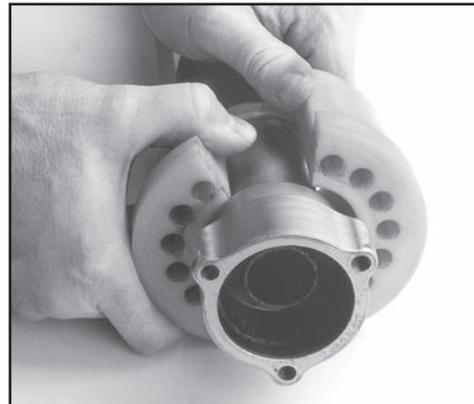

**FIG. 67: INSTALLING SEGMENTED RINGS**
19. Tighten the screw of the control tube end so that the elastic block is compressed and both halves of the segmented rings can be installed (see Fig. 67).